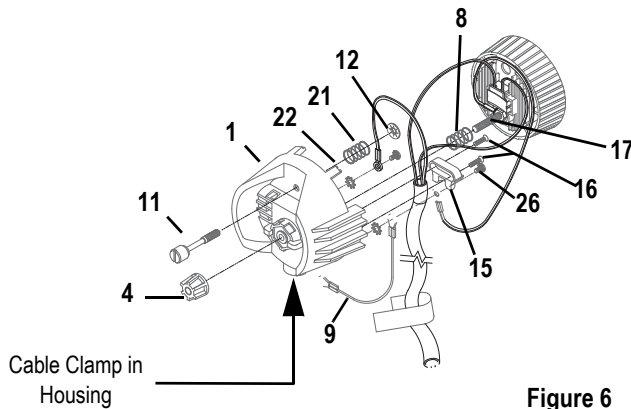

Figure 6
- Step 10: Insert the knurled head screw (11) through the housing socket casting (1) as shown in Figure 6.
- Step 11: Install the ground spring (21) onto the screw and secure it with the Southco flat retaining ring (12). Install the Southco ring with its prongs away from the casting.
Step 15: Place the compression spring (8) on the protrusion on the inside of the index hub. See Figure 6.
Step 16: Insert bolt (17) through spring (8) and through the index hub (6) of the housing socket (1), joining the two castings as shown in Figure 6. Make sure wires are not pinched between the two pieces.
Step 18: Press the two castings together firmly so the bottom of the light baffle (2) sits on top of the cable clamp (15), then install Z lamp knob (4). Hand tighten the knob all the way to the right. See Figure 6.